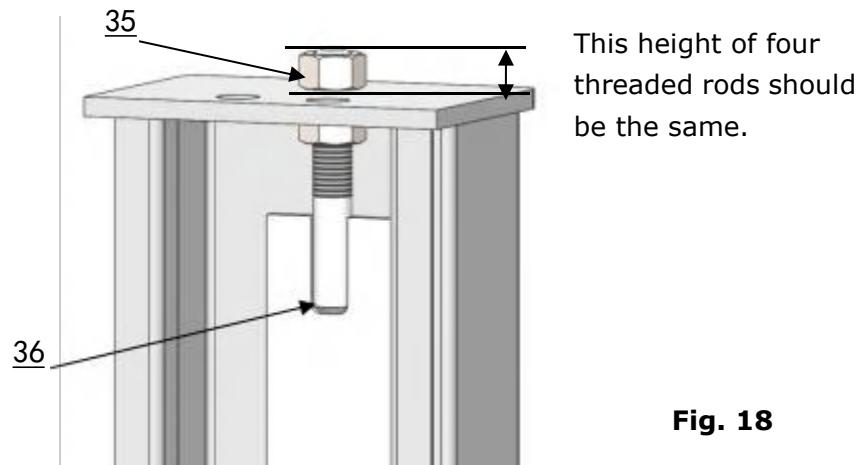

Fig. 18
2. Install Safety Ladders (See Fig. 18).